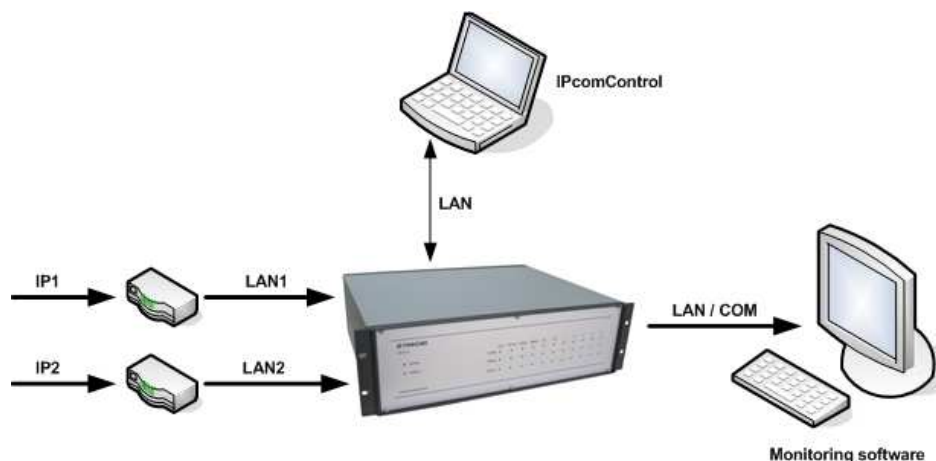

Figure 3. LAN overview
- 7.4 Configure LAN according to figure 3.